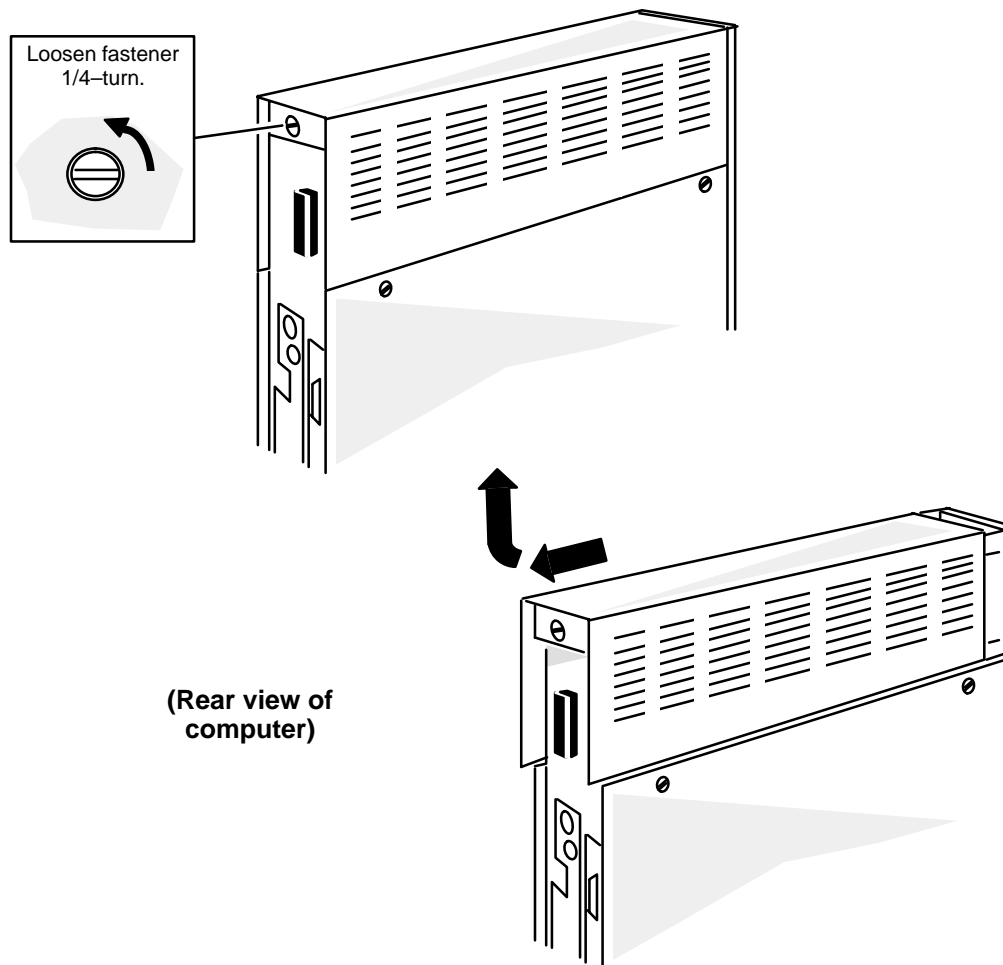

Figure 6-8 Removing the Top Cover
2. Using a coin or screwdriver, loosen the fastener by turning it one-quarter turn counterclockwise as shown in Figure 6-8.
3. Push the top cover toward the back of the computer unit and remove the cover as shown in Figure 6-8.